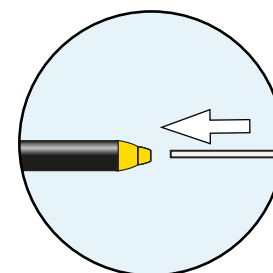

Fig 4.
4. Push the other end of the carbon fibre rod into the yellow connector on the arm section. (Fig 4)